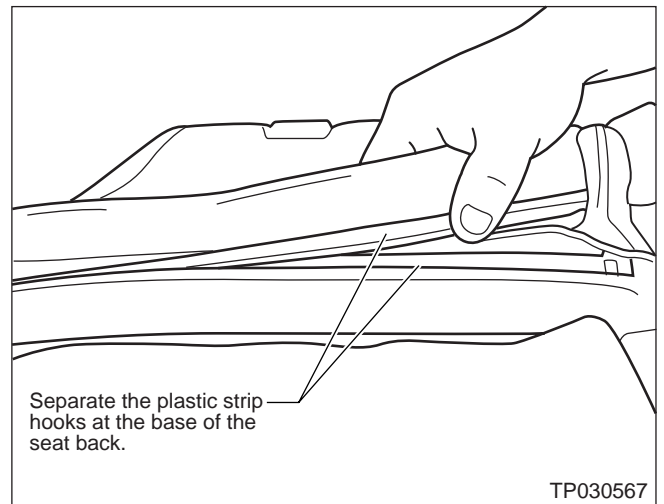

Figure 2
4. Separate the plastic strip hooks at the base of the seat back (see Figure 2).